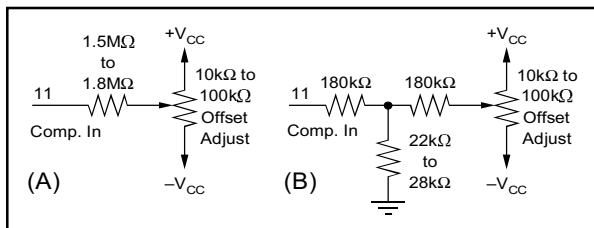

FIGURE 4. Two Methods of Connecting Optional Offset Adjust.
Gain and offset errors may be trimmed to zero using external offset and gain trim potentiometers connected to the ADC80 as shown in Figures 4 and 5 for both unipolar and bipolar operation. Multiturn potentiometers with 100ppm/°C or better TCR are recommended for minimum drift over temperature and time. These pots may be of any value between 10kΩ and 100kΩ. All fixed resistors should be 20% carbon or better. Although not necessary in some applications, pin 16 (Gain Adjust) should be preferably bypassed with a 0.01μF non-polarized capacitor to analog common to minimize noise pickup at this high impedance point, even if no external adjustment is required.
**OFFSET**—Connect the offset potentiometer as shown in Figure 4. Set the input voltage to the nominal zero or minus full-scale voltage plus 1/2LSB. For example, referring to Table I, this value is  $-10V + 2.44mV$  or  $-9.99756V$  for the  $-10V$  to  $+10V$  range.